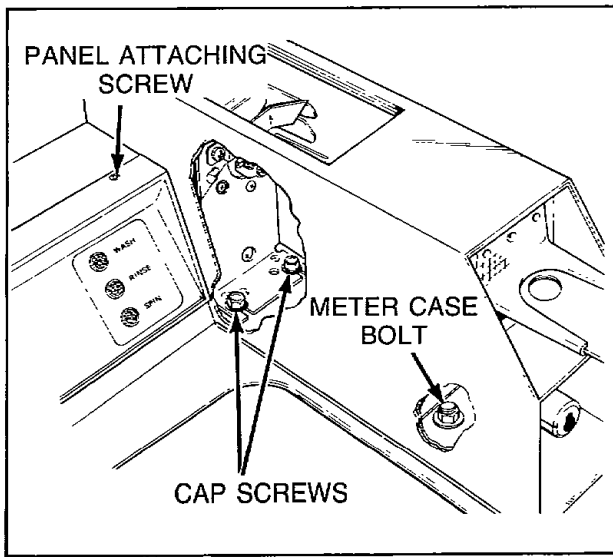

Figure 3
- b. Remove two timer bracket cap screws, *Figure 3* and pull timer bracket and timer up and out of meter case through service door opening as far as wires will permit.
- b. Remove two cap screws holding timer bracket to cabinet top, *Figure 3*.
- h. With loading door open, hold hand under front meter case bolt. Remove nut and lockwasher, *Figure 3*, and catch bolt and washers in hand.